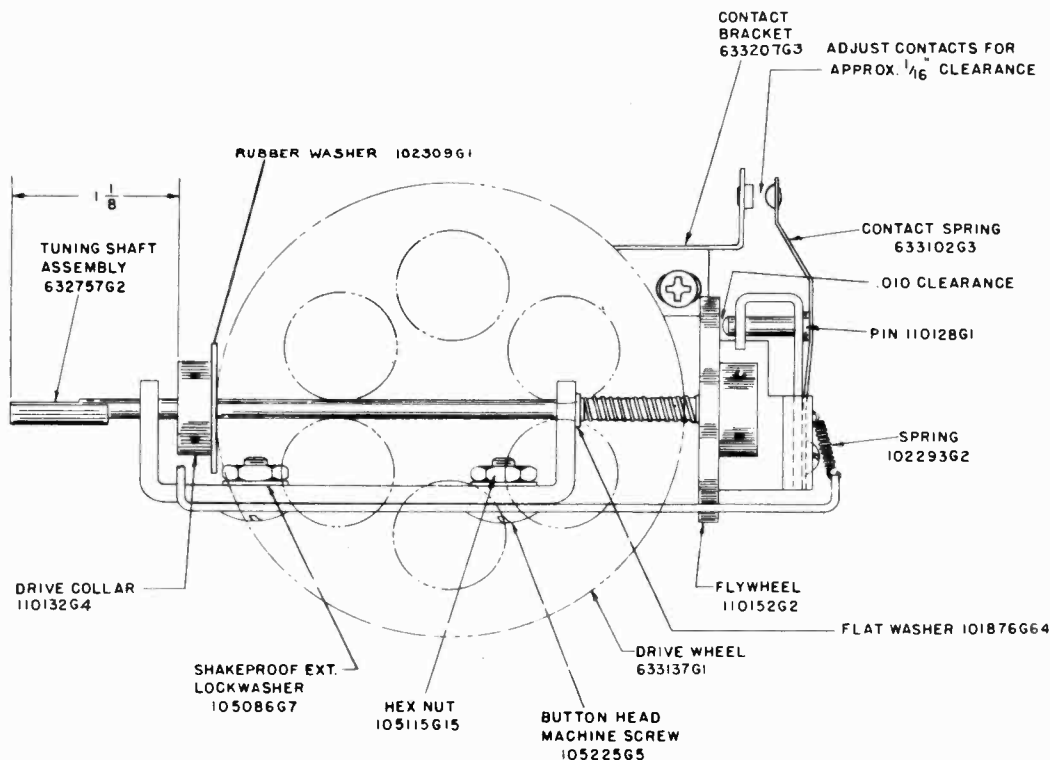
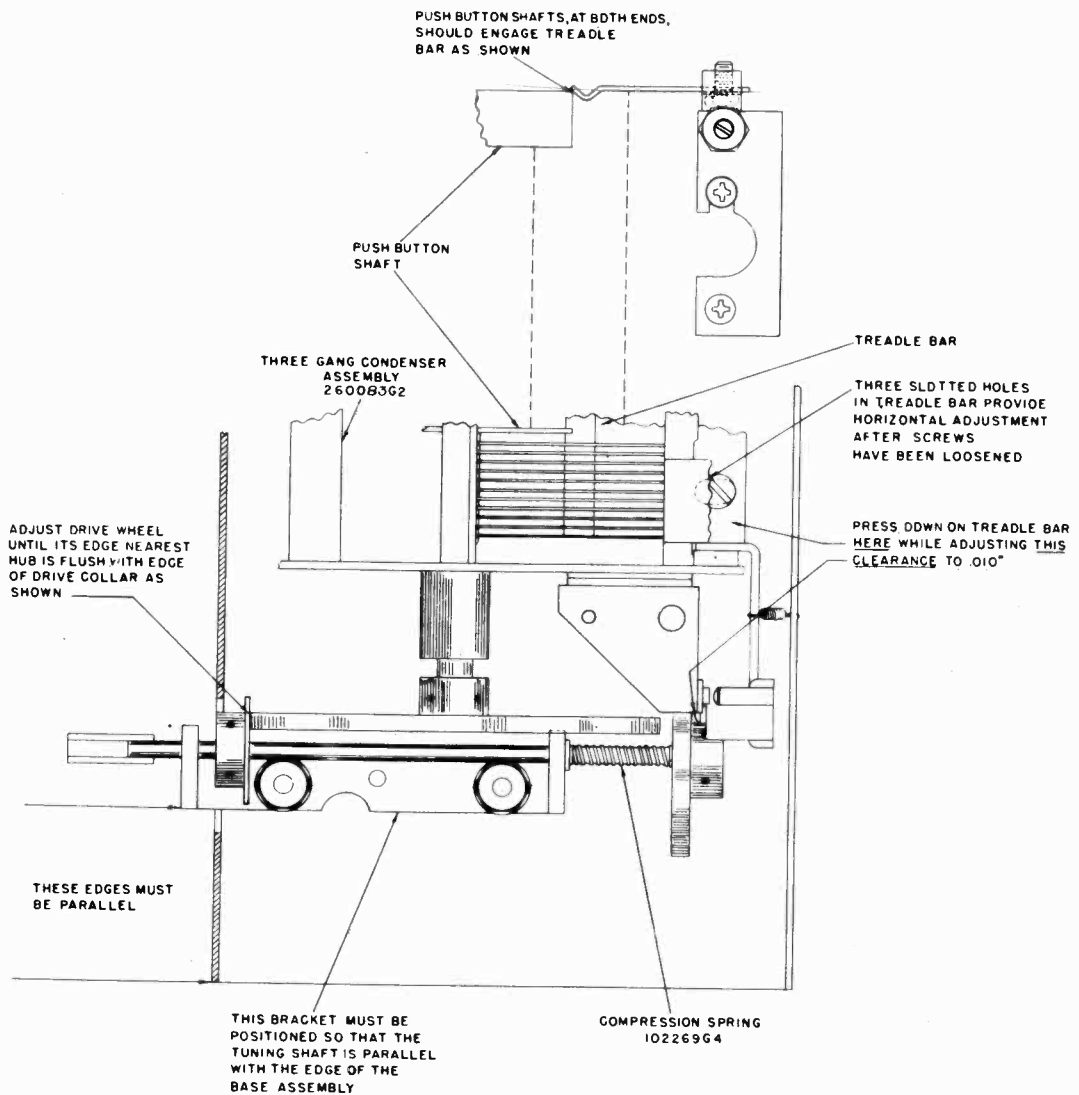

FIGURE 2
FIGURE 3
Whenever any of the mechanical parts in the condenser gang drive assembly require replacement due to rough handling or for any other reason, it is extremely important that clearances and adjustments shown on Figures 2 and 3 are correct; otherwise, the tuning mechanism will be sluggish or it may slip during operation.
1. Assemble the Tuning Shaft, Drive Collar, Compression Spring and Flywheel in the order shown on Figure 3. The distance between the front of the Drive Collar and the front of the Tuning Shaft must be  $1\frac{1}{8}$  inches as specified on Figure 2. Install the Flywheel on the rear of the Tuning Shaft and slide it forward until it nearly touches the edge of the Drive Wheel; then tighten one of the set screws in the Flywheel.
5. If the push button shafts at both ends do not engage the Treadle Bar as shown on Figure 3, the three screws in the Treadle Bar must be loosened and the Treadle Bar should be moved until the required condition is obtained.